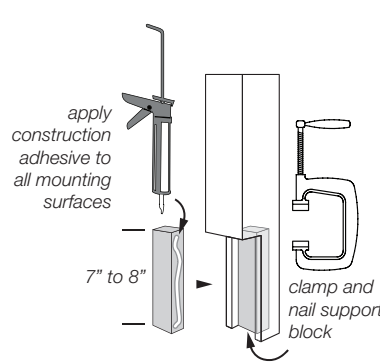

figure 8
3. From scrap lumber, cut 7" to 8" long support block(s) (quarter notch and intermediate landing notch require two blocks). Apply construction adhesive and clamp into the inside bottom of the newel post. Nail block(s) for additional strength. **Pre-drill all holes into newel base** (figure 8).